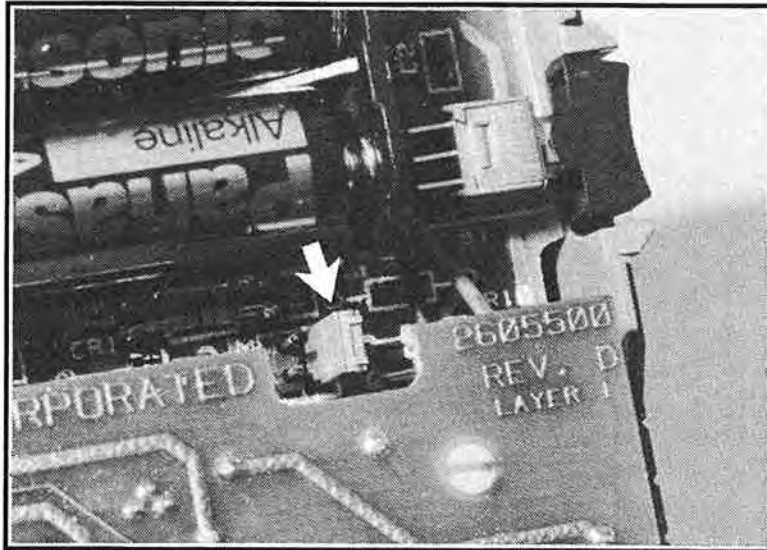

Figure 5. Jumper in position J3 (as shipped from the factory) displays readings in English units
- 2 Locate the movable jumper just below the battery case as shown in figure 5. (The instrument is shipped with the jumper in position J3.)